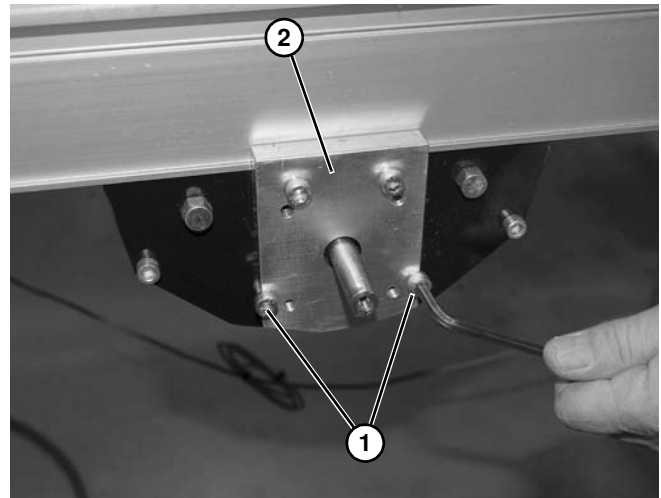
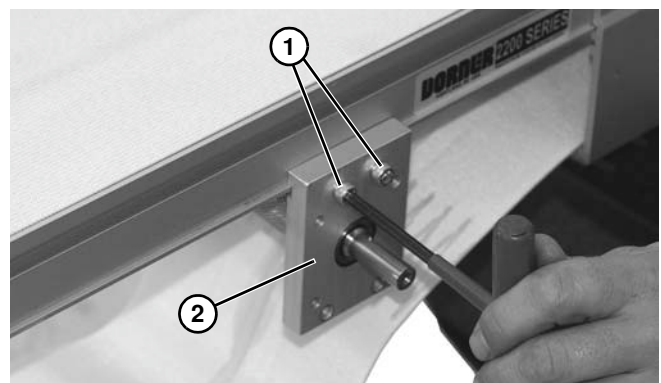

Figure 88
Figure 90
3. Loosen two screws (**Figure 88, item 1**) from each side of mounting block (**Figure 88, item 2**).
5. Loosen two screws (**Figure 90, item 1**) from each side of mounting block (**Figure 90, item 2**).
11. Tighten screws (**Figure 88, item 1**) and (**Figure 90, item 1**) to 7 Nm.